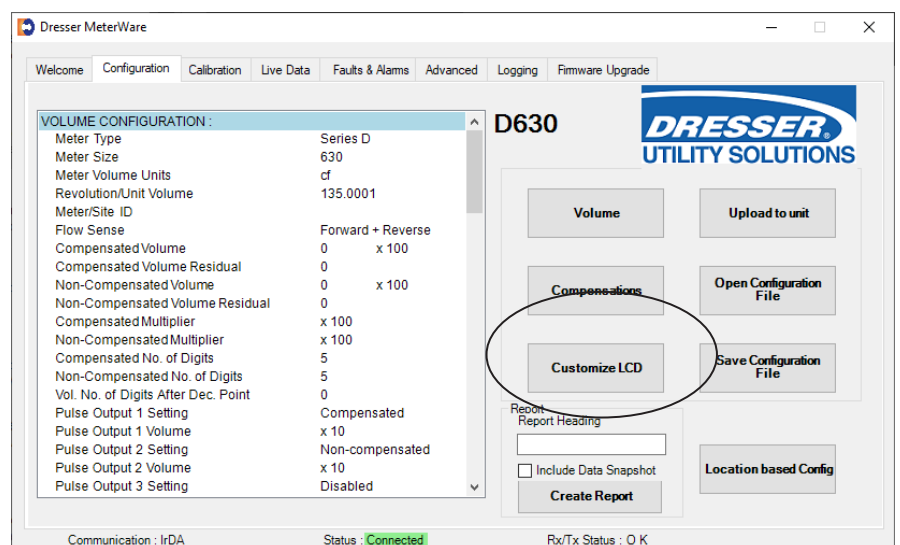

Figure 10.1 Example - Configuration screen in Dresser MeterWare
1. Using the Dresser MeterWare software, go to the **Configuration** screen (Figure 10.1 Example), and select **Customize LCD**, which will open the **LCD Settings** screen.